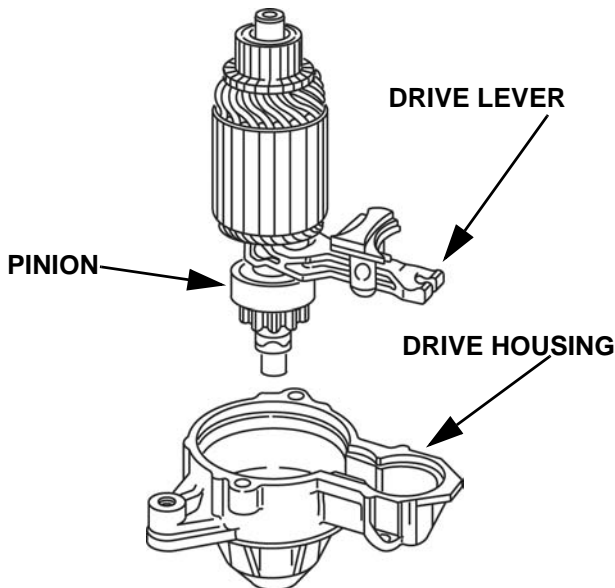

Fig. 114
1. Assemble drive lever to pinion and install armature and drive lever into drive housing, Fig. 114.